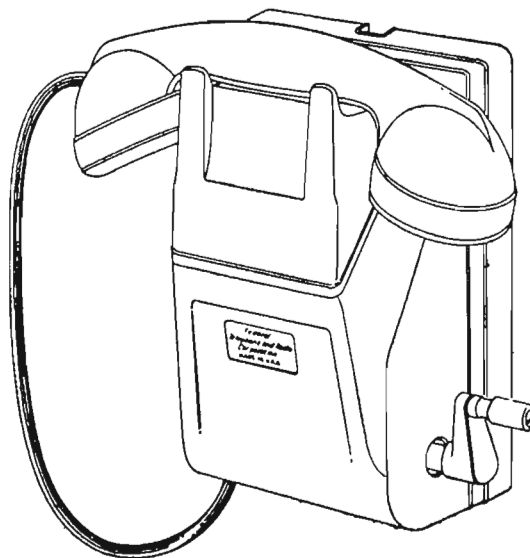

Fig. 1
2.01 The set as furnished (shown in Fig. 1) is arranged for use as a wall set. Where the set is to be installed on a desk or table, two machine screws in the housing are removed and that portion of the housing on which the plunger and supporting surfaces for the hand set are located is lifted off and rotated 180° and then secured in place with the two screws. The upper housing is hinged to the right side of the base. On the left side a spring latch extends through the underside